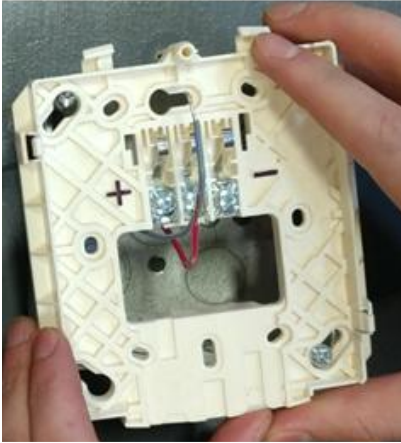

Figure 12.4
6. See **Figure 12.4** Remove Signal Horn base-plate from back box.